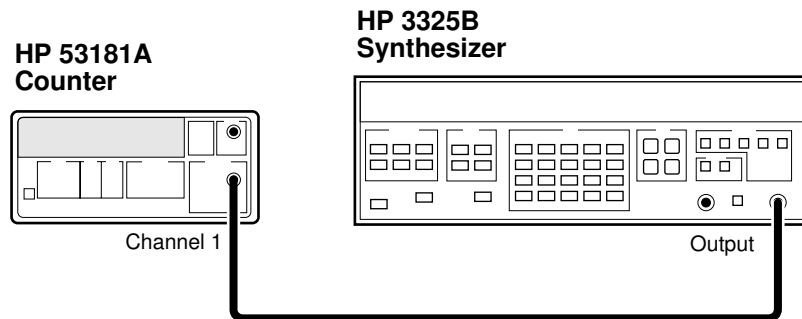

Figure 1-16. Peak Volts Test Setup
- 1 Connect the equipment as shown in Figure 1-16.